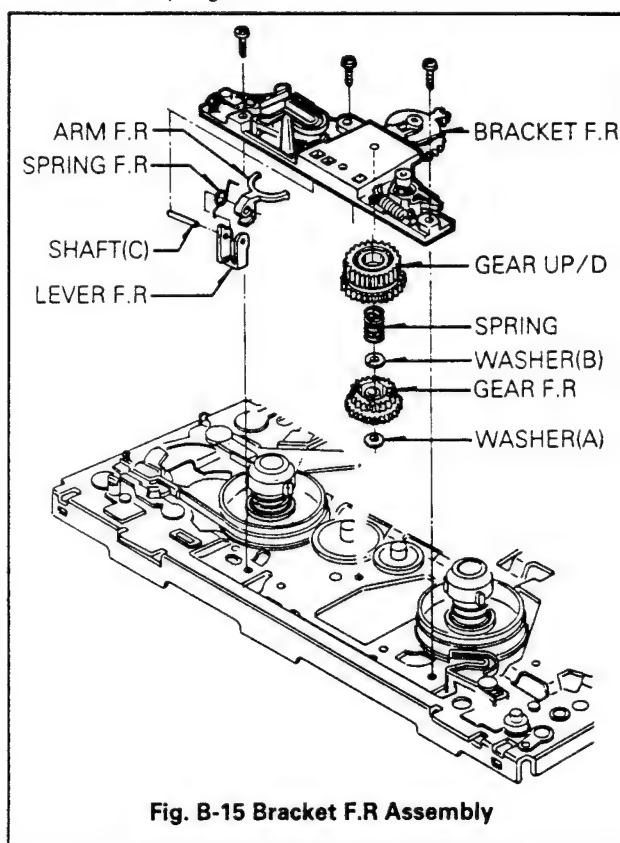

Fig. B-15 Bracket F.R Assembly
- ② Remove the TSB.
- ① Remove the TMB Spring.
- ② Remove the TMB.
15. Bracket F/R(FF/Rewind) Assembly (Fig. B-15)